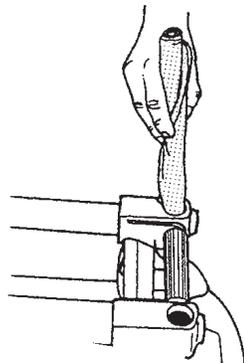

Figure C-8
a. Do not wax the trunnions (148, 149) on the worktable. When you wax and buff the quill (59) do not leave any wax in the racks. If you do, the wax will mix with sawdust and impede the movement of parts.
16. After you apply wax to the mounting holes in the Power base mount (left) and base mount (right), wrap a rag around a scrap of wood and buff out the wax thoroughly. See Figure C-8.